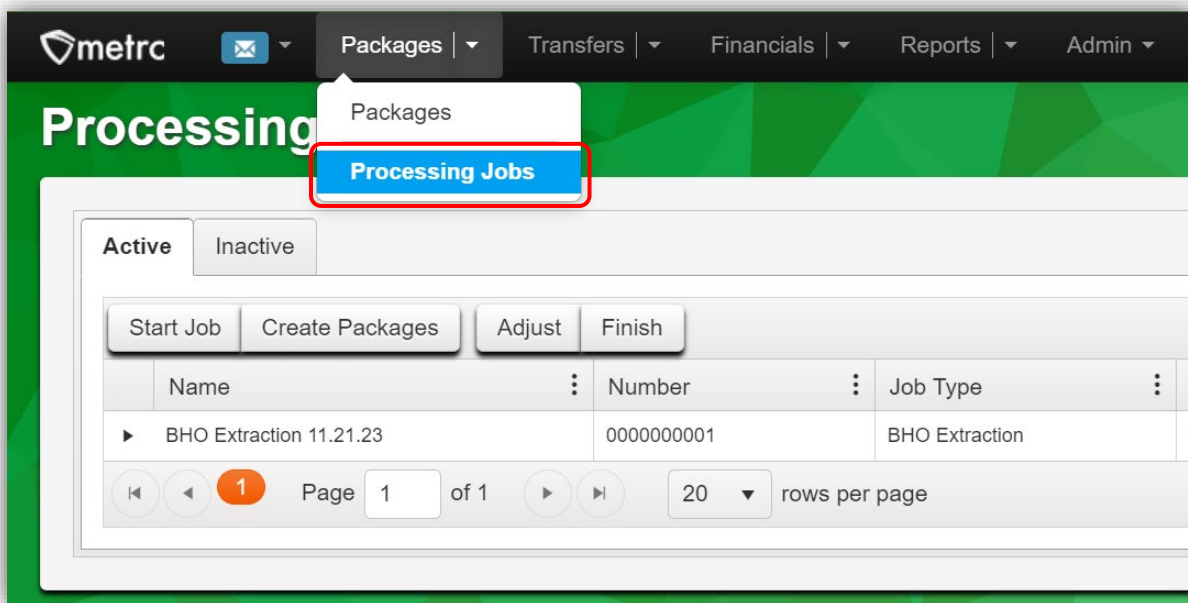

Figure 8: Processing Jobs grid in Packages dropdown
- Choose the Processing Jobs option found under the Packages area dropdown in the Navigational Toolbar – **see Figure 8.**